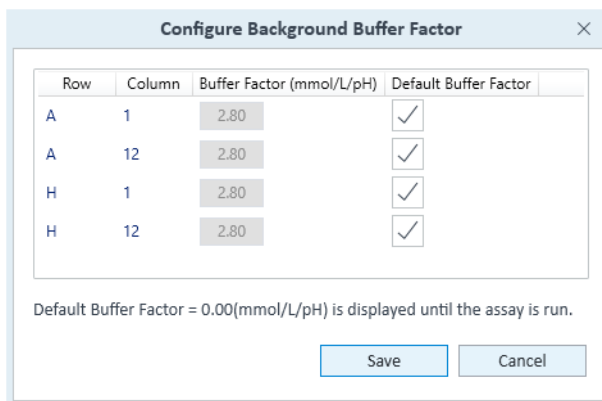

Figure 62 Configure background buffer factor
- 5 To configure Background Well Buffer Factor, click **Assay Media**. (See Figure 62.)
- 7 Under the column header **Default Buffer Factor**, check the boxes next to each background well, and click **Save**. (See Figure 62.)